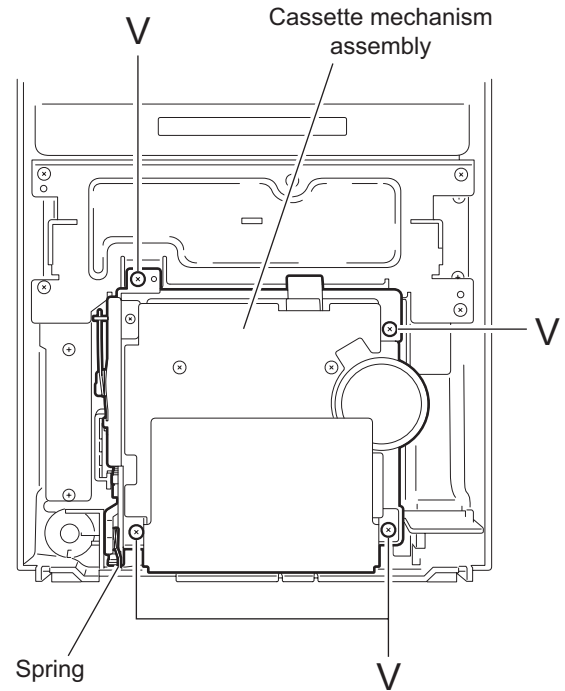

Fig.30
2.2.1 Removing the cassette mechanism assembly (See Fig.30, 31)